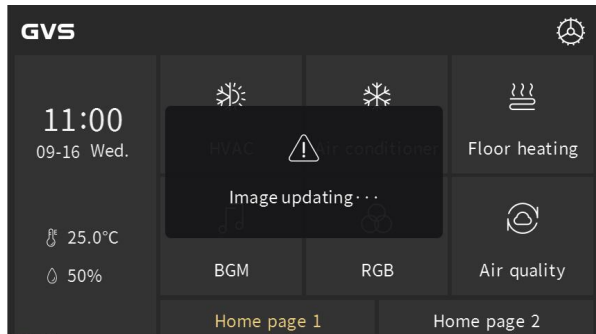
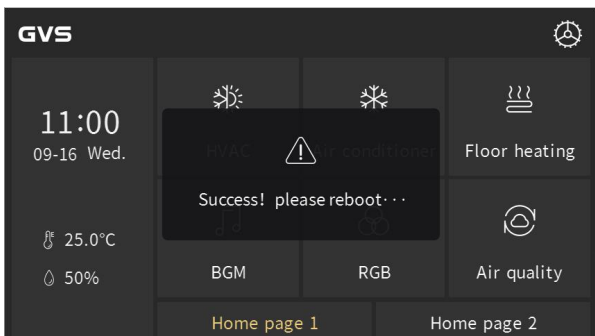
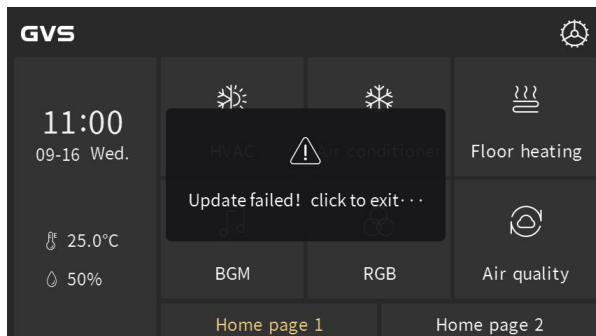
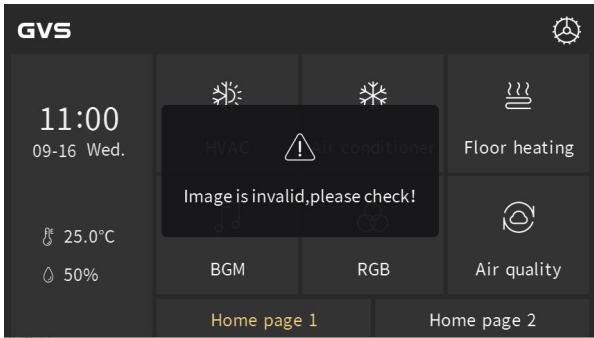

Fig.2.12.6
Fig.2.12.7
Fig.2.12.8
Fig.2.12.9
3. Click “Confirm” to update picture; after upgrade, there will pop up a window of the result, if upgrade is successful, then reboot the device manually to apply the new picture to the album; if upgrade is failed, click any area outside the window to return to the page, as shown in Fig.2.12.6, Fig.2.12.7, Fig.2.12.8, Fig.2.12.9.